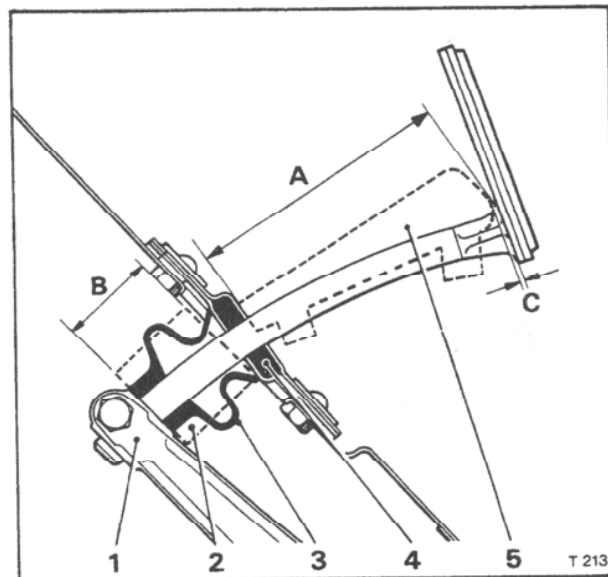

Fig. G18 Brake pedal height settings
Brake pedal height setting (see Figs. G18 and G19)
1. Locate the setting gauge into the brake pedal stem hole in the end of the pedal lever (see Fig. G18). Raise the pedal lever until the gauge touches the underside of the toe-board seal housing.
1. Place the checking template as shown in Figure G18 between the underside of the brake pedal and the upper surface of the pedal seal housing with the two lugs of the gauge located under the pedal stem. Rest the flat base of the template on the seal housing. Ensure that both carpet and underlay are removed from the housing surface.